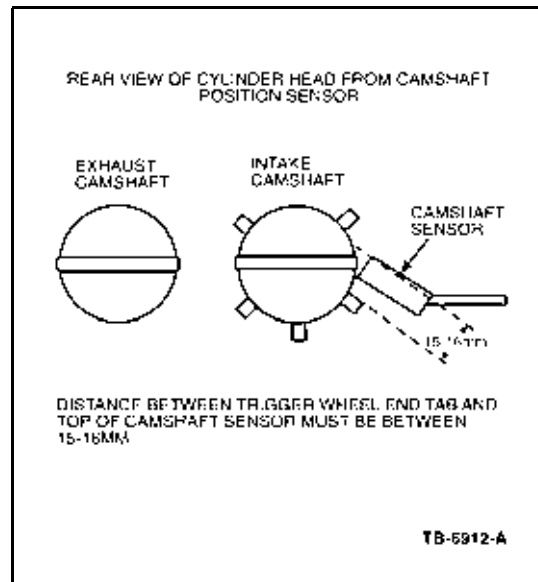

Figure 3 - Article 03-6-7
2. Inspect the intake camshaft position sensor trigger wheel alignment. With camshaft alignment tool, and crank timing peg installed, there should be 15-16mm between the top edge of the CMP sensor and the CMP trigger wheel tooth (Figures 3 and 4).